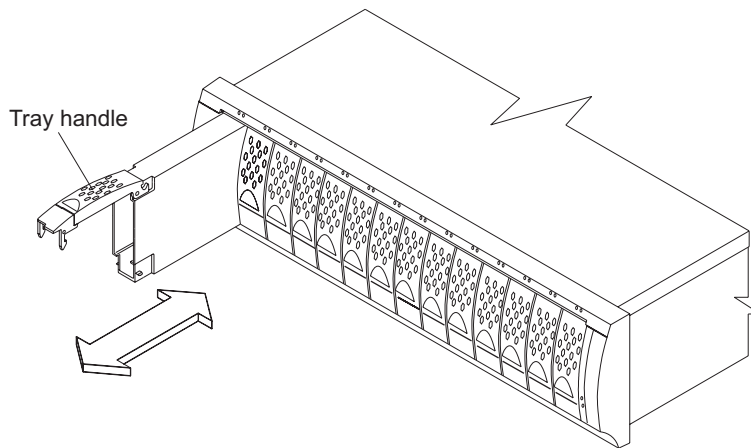

Figure 21. Removing a drive CRU
3. Pull the tray handle out so that it is in the open position to release the drive CRU. Pull the drive out of the bay, as shown in Figure 21 on page 40.